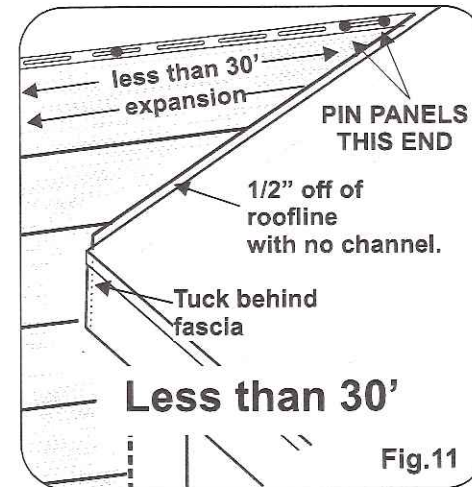

Fig.11
- Cortex® or Pro Plug® screws and matching plugs should be used when installing Celect trim. Space the fasteners no more than 16" apart and no closer than 2" from the end of the trim. Make sure not to fasten through the siding or into the expansion pocket (Fig 11).